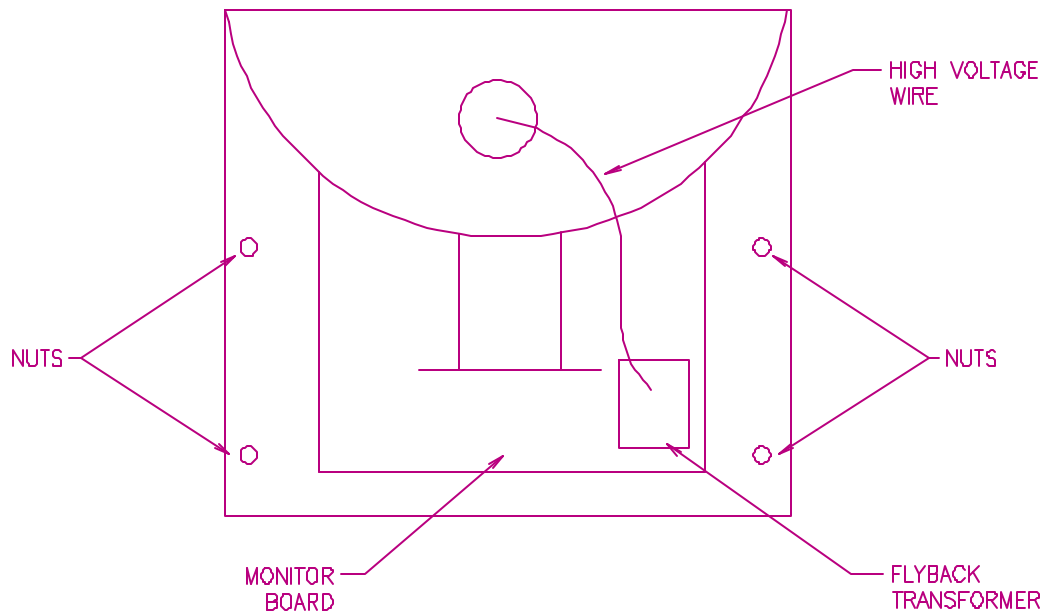

FIGURE 2 - COUNTERTOP - MONITOR REMOVAL
5. Remove the four nuts securing the monitor chassis to the main chassis; two nuts are located on each side of the monitor board. **NOTE: BE CAREFUL TO AVOID THE FLYBACK TRANSFORMER AND HIGH VOLTAGE WIRE RUNNING TO THE MONITOR.** See Figure 2 for locations.